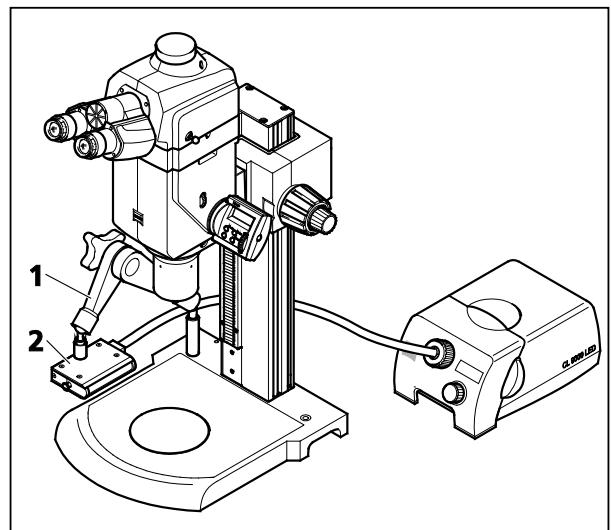

Fig. 44 Line light S
Line light S (Fig. 44/2)
- Slacken the articulated arm (Fig. 44/1) or light bracket S.